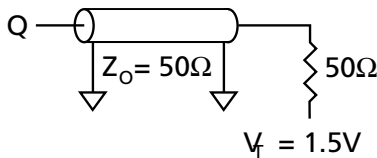
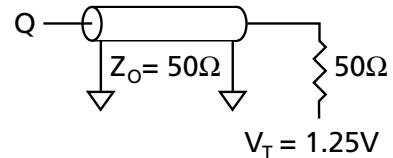

Figure 1
Figure 3
8. Test conditions as specified with the output loading shown in Figure 1 for 3.3V I/O ($V_{DDQ} = +3.3\text{V} \pm 0.165\text{V}$) and Figure 3 for 2.5V I/O ($V_{DDQ} = +2.5\text{V} +0.4\text{V}/-0.125\text{V}$) unless otherwise noted.
Output load	See Figures 1 and 2
Output load	See Figures 3 and 4